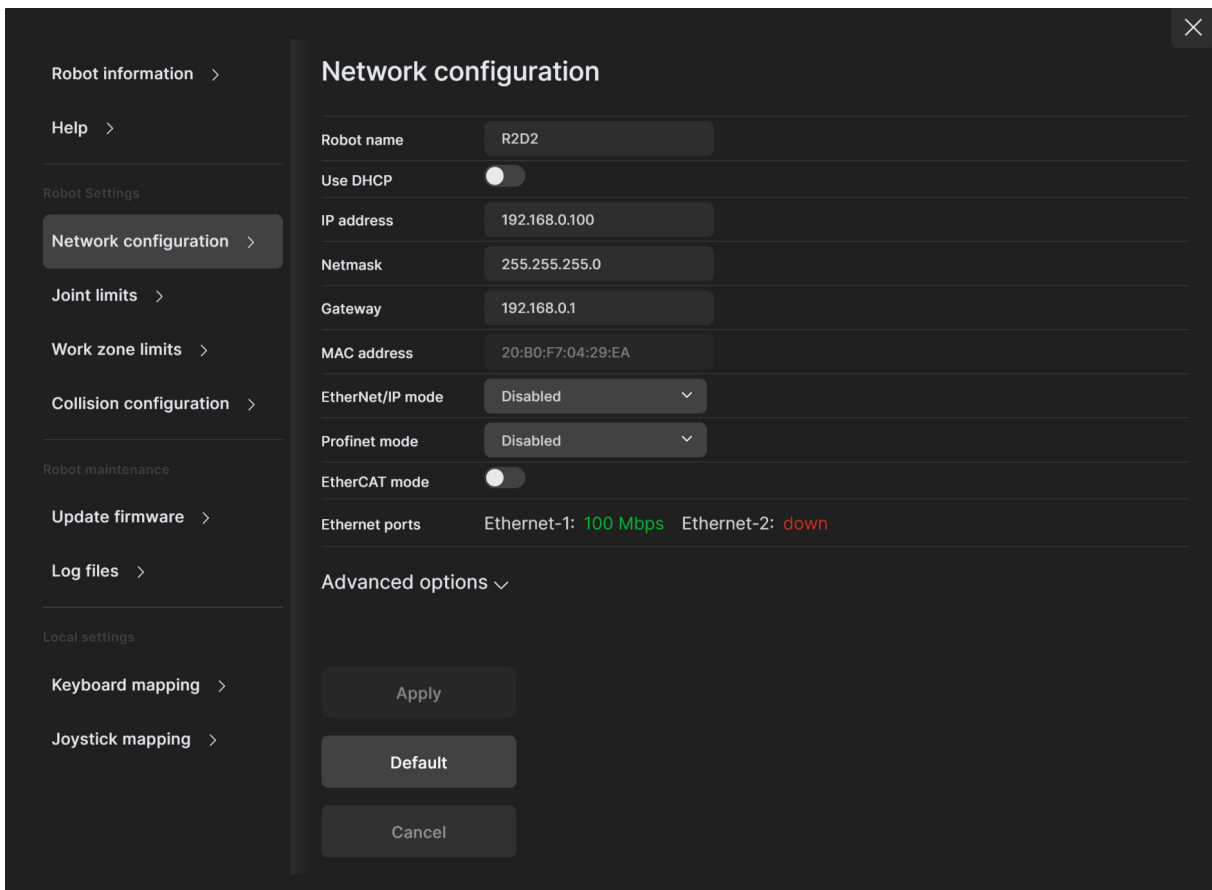

Figure 16: Changing the robot's network configuration
3. Depending on your configuration, activate the toggle DHCP to automatically receive an address from your router or leave untoggled to force a specific IP. You don't need to reboot the robot; the new configuration will be applied as soon as you click on the Apply button (Figure 16).